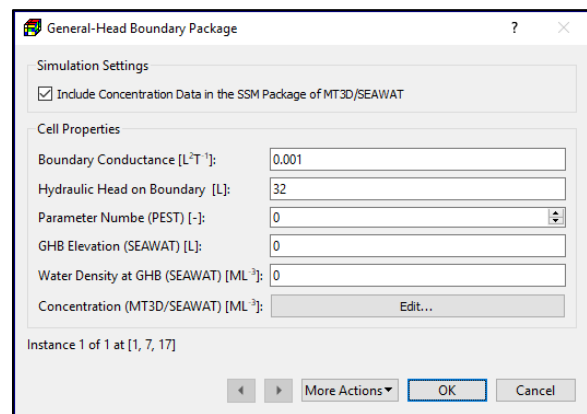
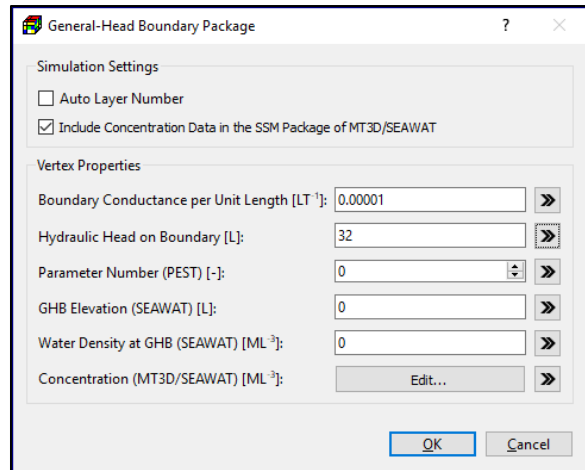
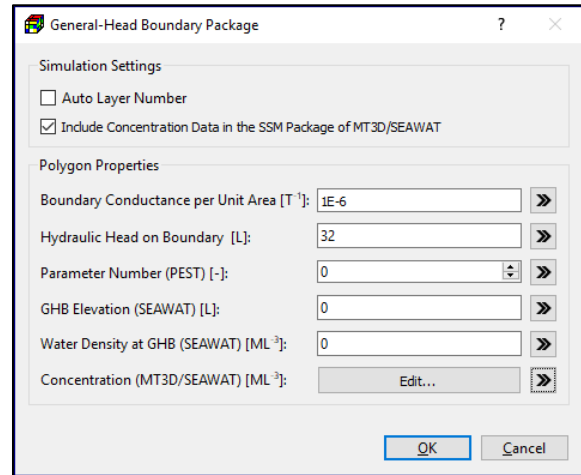

Figure 65. The General-Head Boundary Package dialog box for specifying cell properties
Figure 66. The General-Head Boundary Package dialog for specifying vertex properties.
Figure 67. The General-Head Boundary Package dialog for specifying polygon properties.
1. **All input methods:** The data entry dialog boxes (Figure 65, Figure 66, and Figure 67) of all input methods include a Simulation Settings group that contains the following option.
2. **Cell-by-cell input method:** Figure 65 shows the dialog box for specifying one or more external boundary segments to a model cell. For each segment, the following properties need to be assigned.
- **Boundary conductance (CB) [L^2T^{-1}].** The value of CB depends on the characteristics of the aquifer and the external boundary.
- **Hydraulic Head on Boundary (HB) [L].** This is the head at the segment of external boundary.
3. Polyline input method: Figure 66 shows the dialog box for specify data to one or more vertices of a polyline.
- If this box is checked, the layer number of a segment of external boundary along the polyline is determined by comparing its *hydraulic head on external boundary (HB)* with the top/bottom elevations of the cells in the same vertical model column as that segment.
4. **Polygon input method:** Figure 67 shows a dialog box for specify the following data to a polygon. These data may be applied to model cells following the rules described in Section 3.4.2.3 and additional rules below.